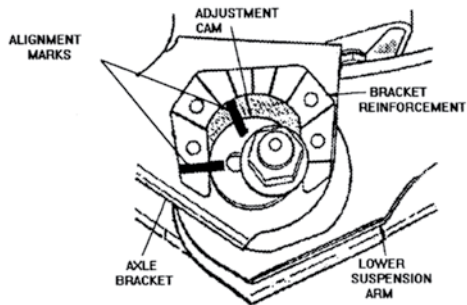

Figure 3
7. 1997 model TJ only: Mark the position of the alignment cam adjusters located at the end of each front lower control arm at the axle **Figure 3**.